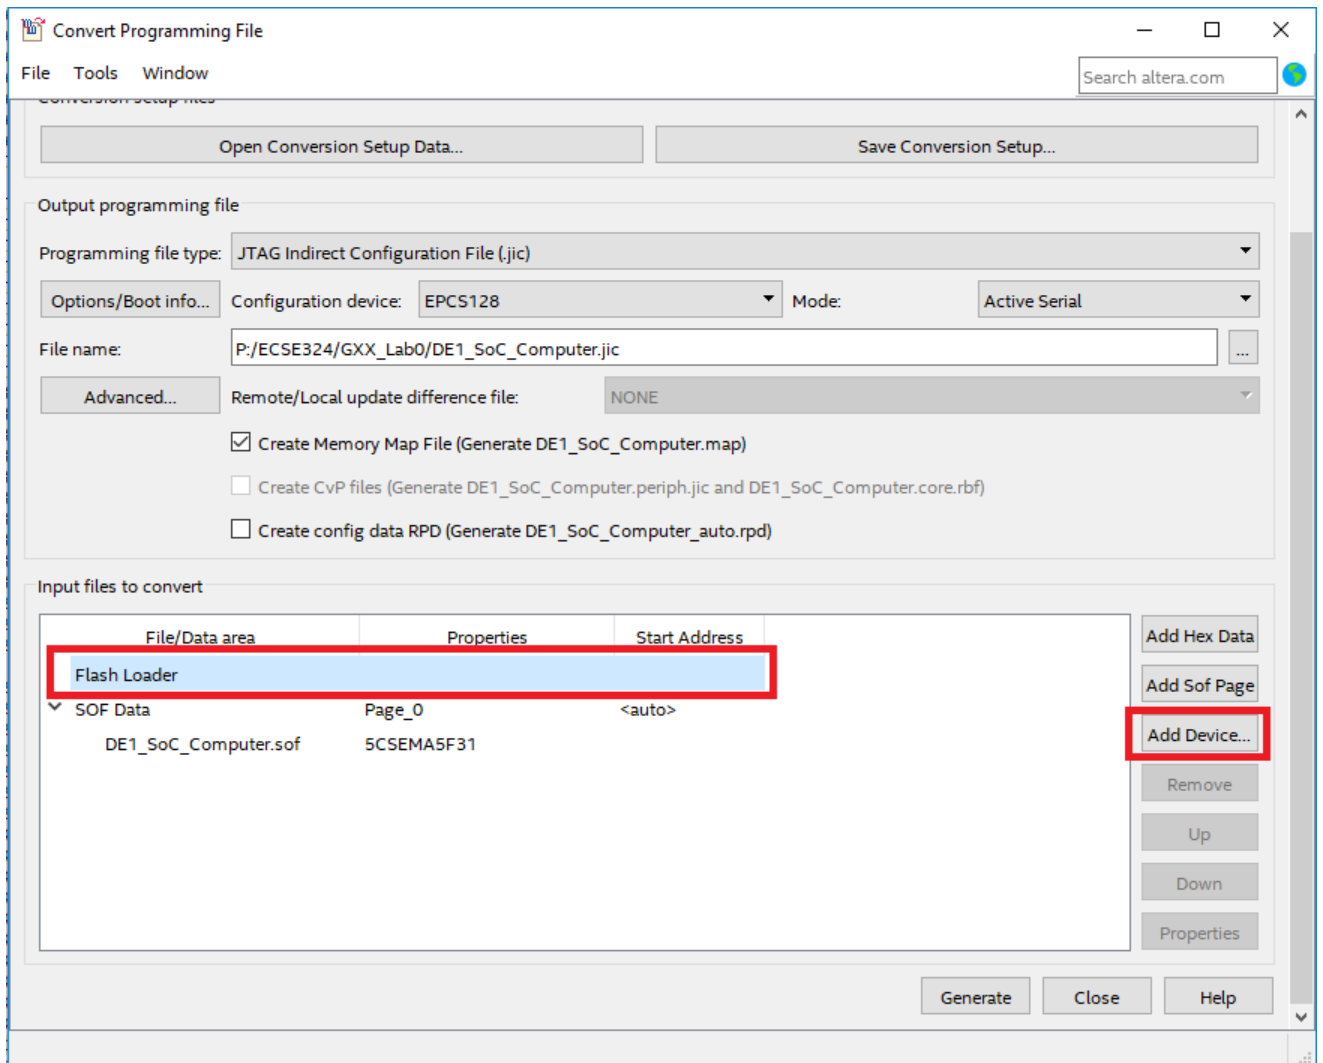

Figure 5: Convert SOF to JIC - Step 5
5. Next, under 'Input files to convert' click on 'Flash Loader', and then click 'Add Device' as shown in Figure 5.